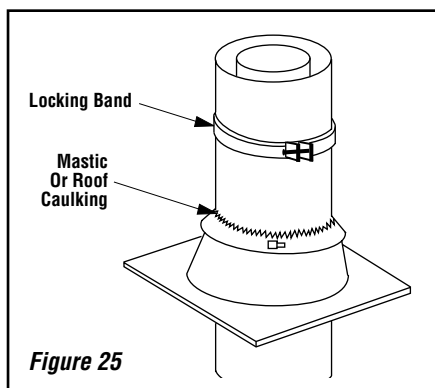

Figure 25
Seal storm collar to outer chimney with roof caulking or mastic around entire circumference of pipe. Also add extra roof caulking to the tab/slot area to seal completely against water penetration (**Figure 25**). Check all joints very carefully to ensure no water intrusion can take place.
Step 9. FTf locking bands, Model FLB, may be required if the chimney extends too high above the roof flashing. As a general rule, if the chimney extends more than 6' above the roof flashing, the use of locking bands is advisable to strengthen the chimney assembly. Align the locking band at the chimney joint. Locking bands wrap around pipe joints equally covering the joints of both pipe sections. Use the nut provided and TIGHTEN snugly. Do not overtighten as this might damage the chimney section (*refer to Figure 25*).